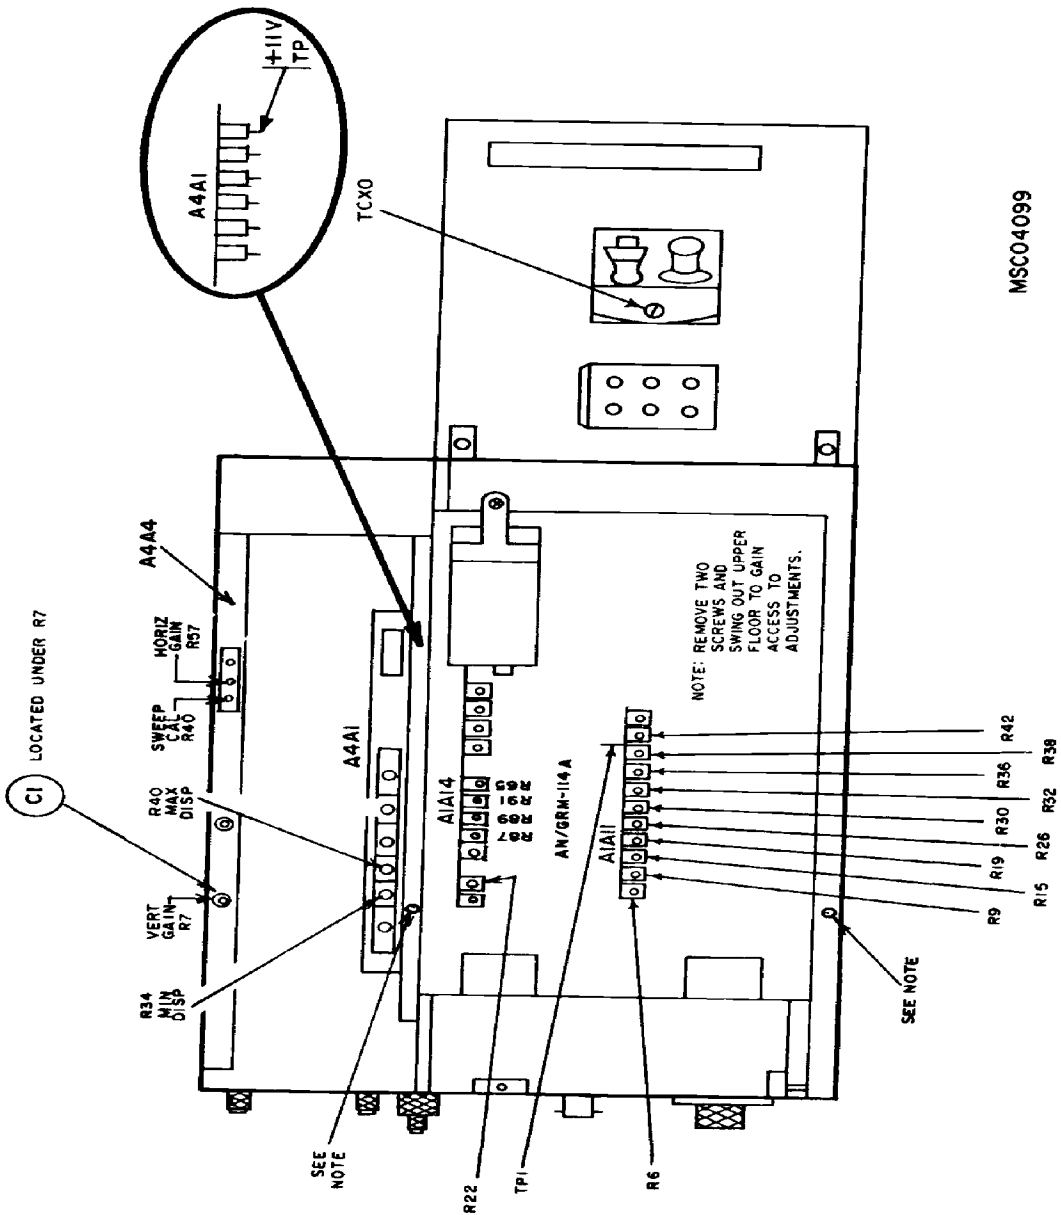

Figure 1. Test instrument - top view.
- (1) Adjust **REF CAL** (front panel) to its mechanical center.
- (2) Adjust **TCXO** (fig. 1) until frequency counter indicates 10,000,000 Hz.